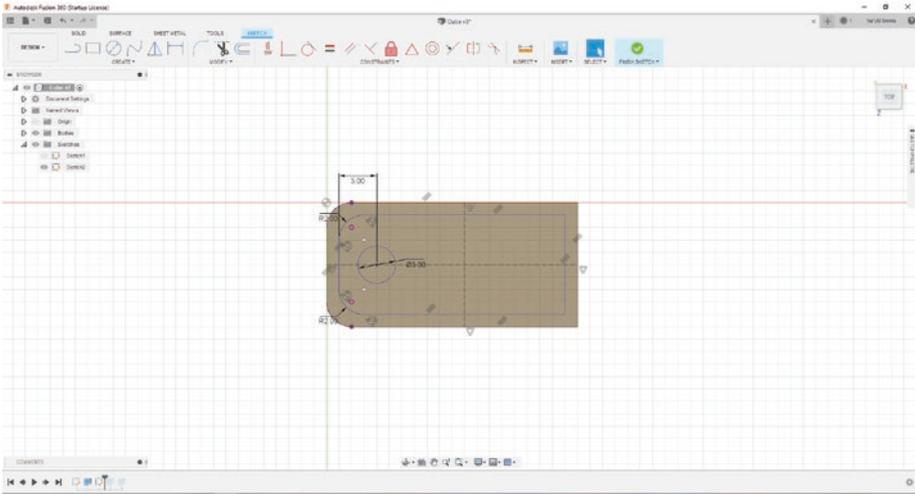

Figure 3-79. Add 2mm fillets
36. Do the same thing to Sketch2 that we did to Sketch1. See Figure 3-79.